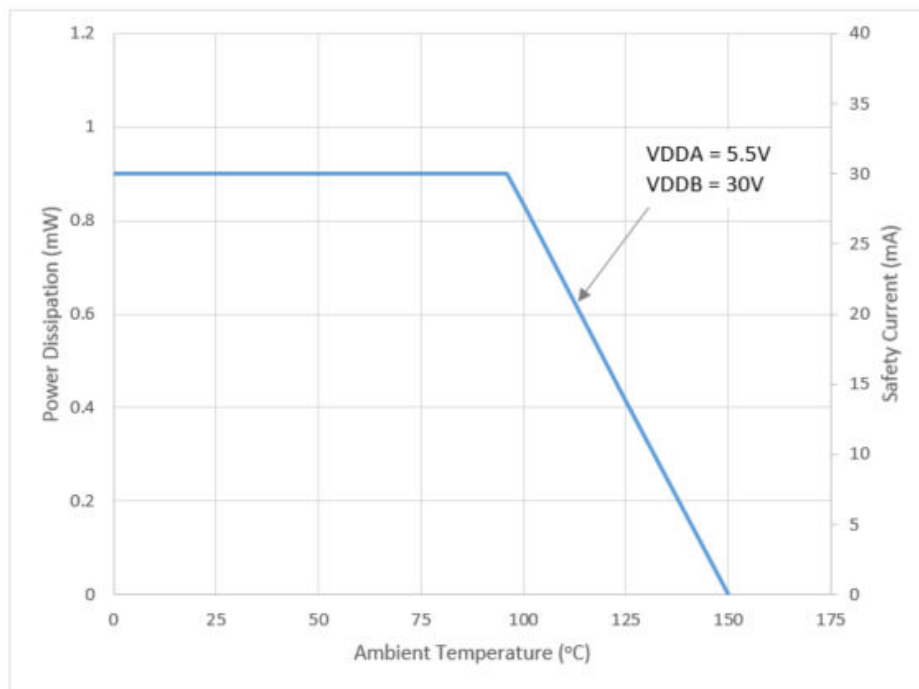

Figure 4.6. WB SOIC-20/24 Thermal Derating Curve (Dependence of Safety Limiting Values per VDE)
- See Figure 4.6 for Thermal Derating Curve.